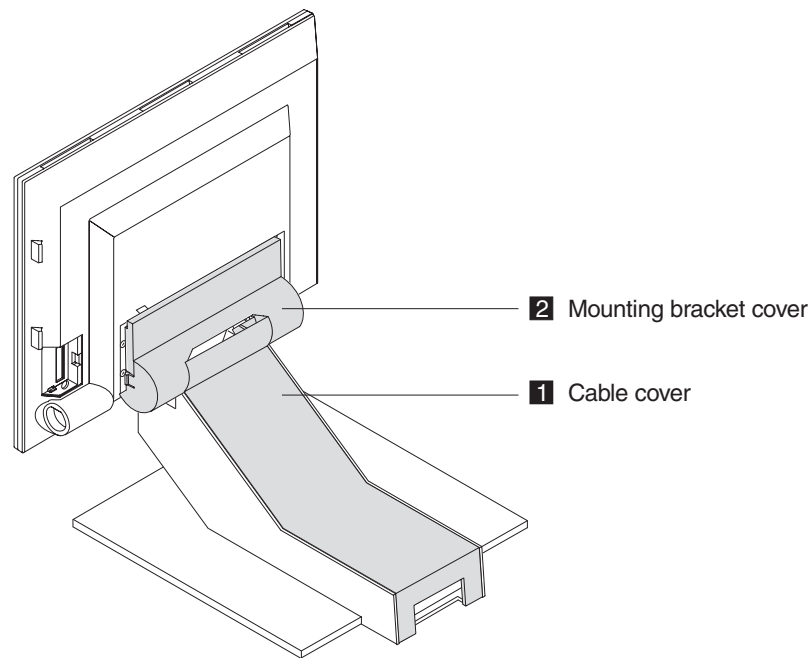

Figure 2-19. Placement of cable covers
- a. Attach the cable cover (**1**) to the mounting bracket (as shown in Figure 2-19), snapping the tabs on the sides of the cover into the small holes on the sides of the mounting bracket.